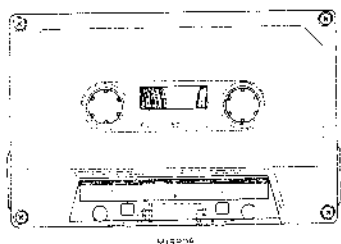

Fig. 17
- 1) When using an ordinary cassette, the tape guides and heads, etc. are not visible. As shown in Fig. 17 use a cassette tape from which part of the cassette case has been cut out and a mirror installed for easy visibility of the head area when making tape guide height adjustment.
4. When a mirror installed cassette test tape as shown in Fig. 17 is required, it can be ordered from AKAI Electric Co.
5. The position where spring (A) meets the tape guide base is adjusted at the place of manufacture and readjustment is unnecessary.